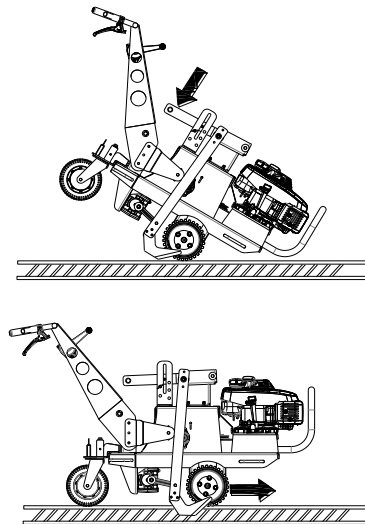

Fig. 5
2. Holding both handles, fully engage the blade clutch lever on the operator's left hand side. Rocking back on the handles, allow the blade to cut into the sod to your chosen depth. Keep the blade clutch lever fully engaged at all times when cutting (see *fig 5*).